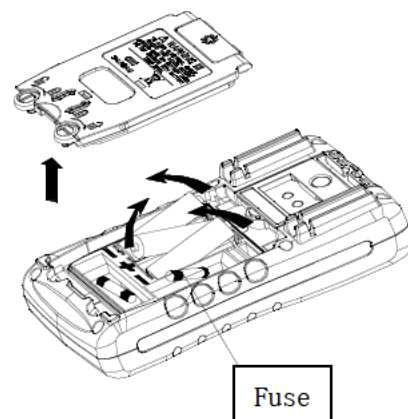

Figure 9.
Step 2: Use a slotted screwdriver to rotate the battery door screw by a quarter turn counterclockwise and remove the battery door, as shown in Figure 9. Replacement of Battery and Fuse